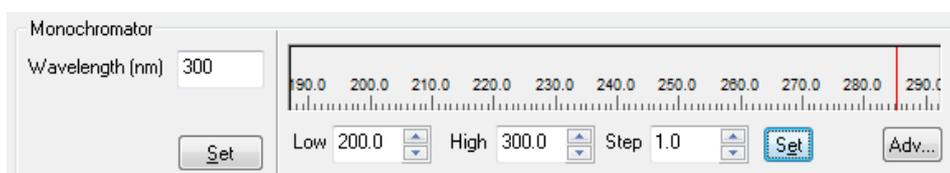

Figure 2.49: the Monochromator panel for steady state fluorescence excitation
4) On the **Monochromator (Mono 1)** panel (Figure 2.49) enter the selected excitation wavelength range and step size. Ensure that the excitation wavelength is always shorter than the cut off wavelength of the filter. The monochromator slits should be opened to 1 nm using the dials.